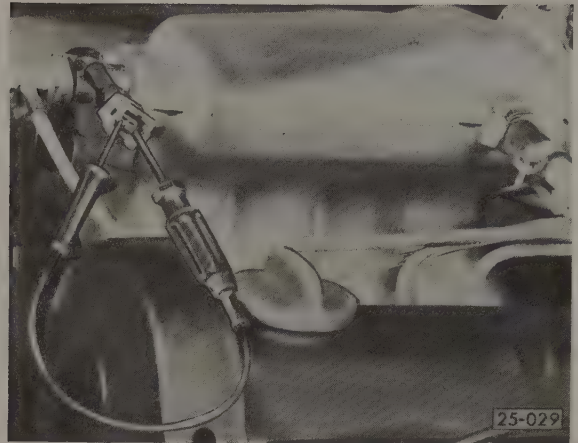

Fig. 5-8. Test light connected across cold-start valve harness connector. Location shown is different than on cars covered by this manual.
3. Disconnect the cold-start valve harness connector and connect a test light across the connector terminals, as shown in Fig. 5-8.